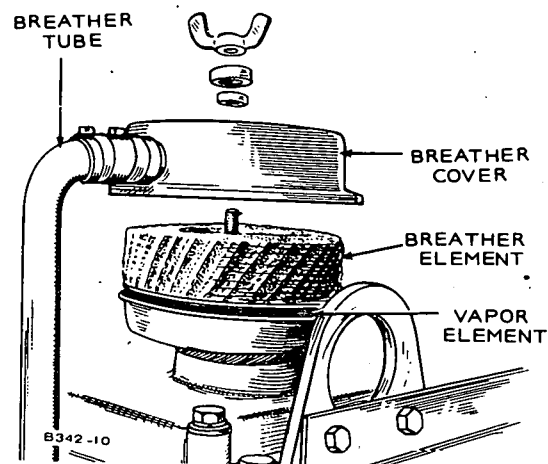

FIGURE 30. CRANKCASE BREATHING FILTER
1. Remove wing nut, flat-washer and rubber washer holding cover, lift cover and swing away from filter assembly (see Figure 30).